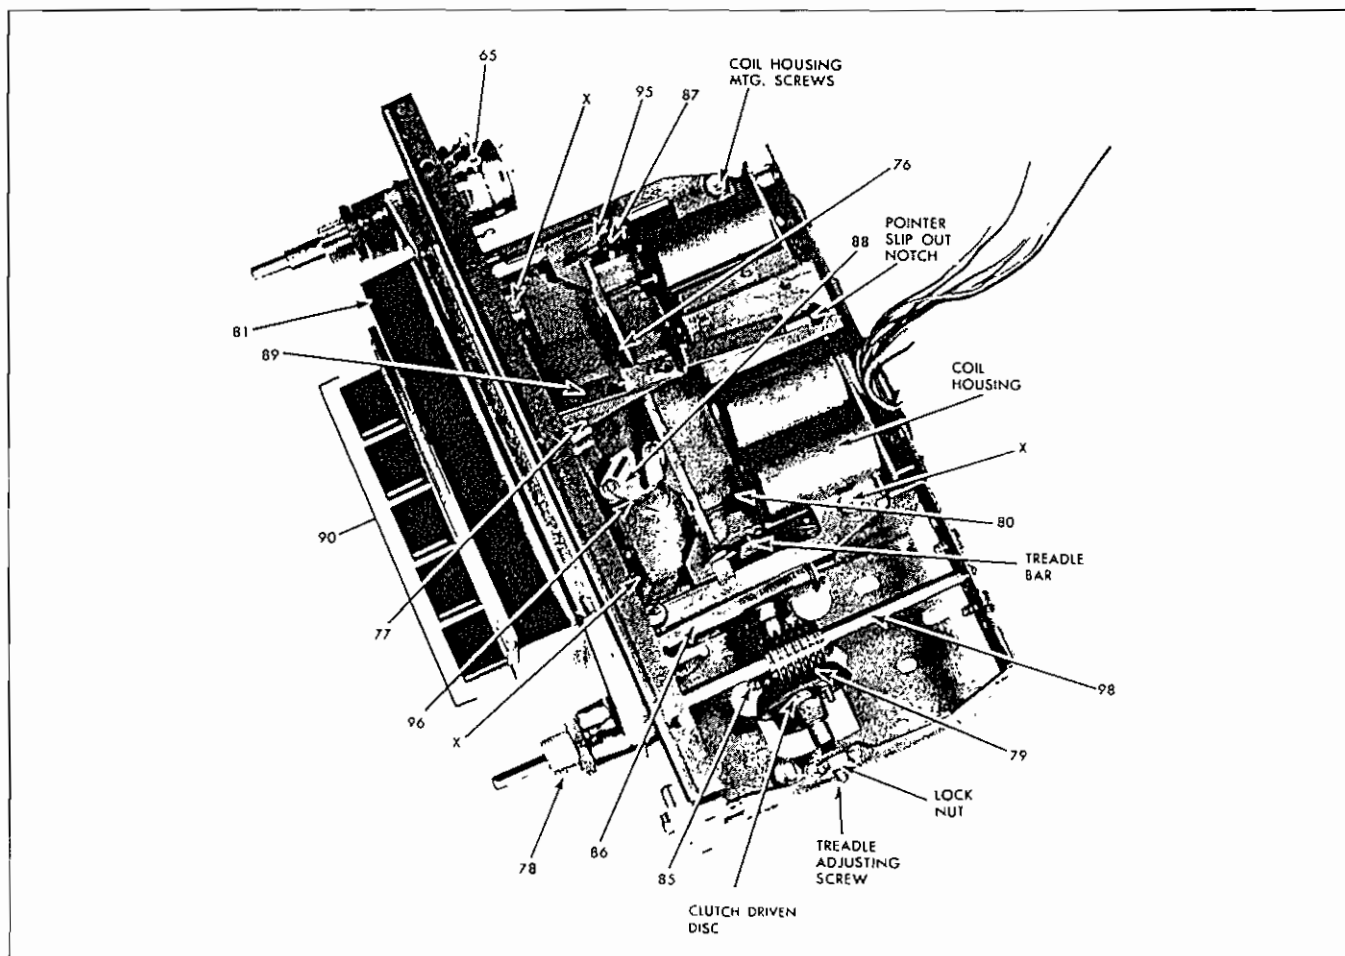

Figure 32 TUNER - TOPVIEW - 987727 - RADIO
REPLACE DIAL POINTER: Remove the four mounting screws holding the dial escutcheon to the chassis and remove escutcheon. Remove the spring holding the pointer arm, see Figure 32 and move the dial pointer to the low frequency (55) end of the dial so the pointer linkage can be lifted out of the guide slot in which it rides, see Figure 32.
and move out of the way without unsoldering wires. Remove the three mounting screws holding the tuning coil strip and remove the wrap around as far as possible from the coil strip. Remove coils from housing and up past circuit boards, see Figure 32. Replace defective coil on coil strip and place coil strip back on coil housing, see Figure 32. Reverse procedure to reinstall balance of parts removed.
Remove the three screws holding the tuner frame to the front plate of the radio. Move the plate away from tuner so the rack and worm can be lifted out to the front of the tuner. It may be necessary to remove the collar or spring clip on the end of the rack and worm shaft, see Figure 32.
Remove the four screws holding the coil housing, see Figure 32 and lift the coil housing back out of the way.
Remove the de-clutching cam, see Figure 32, by removing the spring clip on the right-hand end of the cam, and then pry the left-hand end out of the frame. Lift out cam assembly. Care must be used not to bend cam assembly.